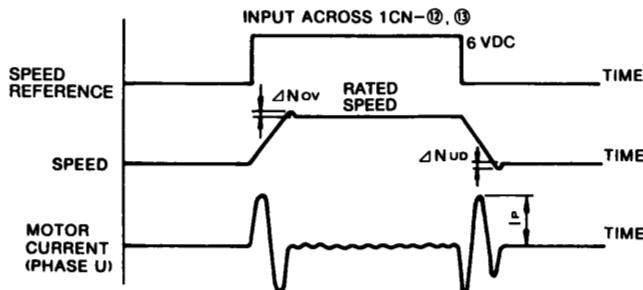

Fig. 10.3 Start-Stop Characteristics
(3) Start-stop characteristics (Fig. 10.3)